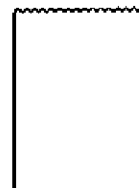
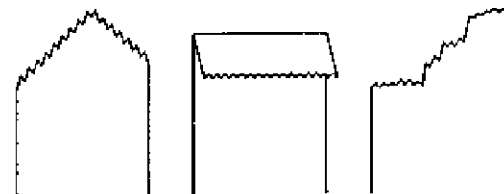

Fig.2
Fig.3
- The end of the paper which will be inserted into the printer must look like the one shown in Fig.2. Do not insert a paper end that looks like the ones shown in Fig.3.